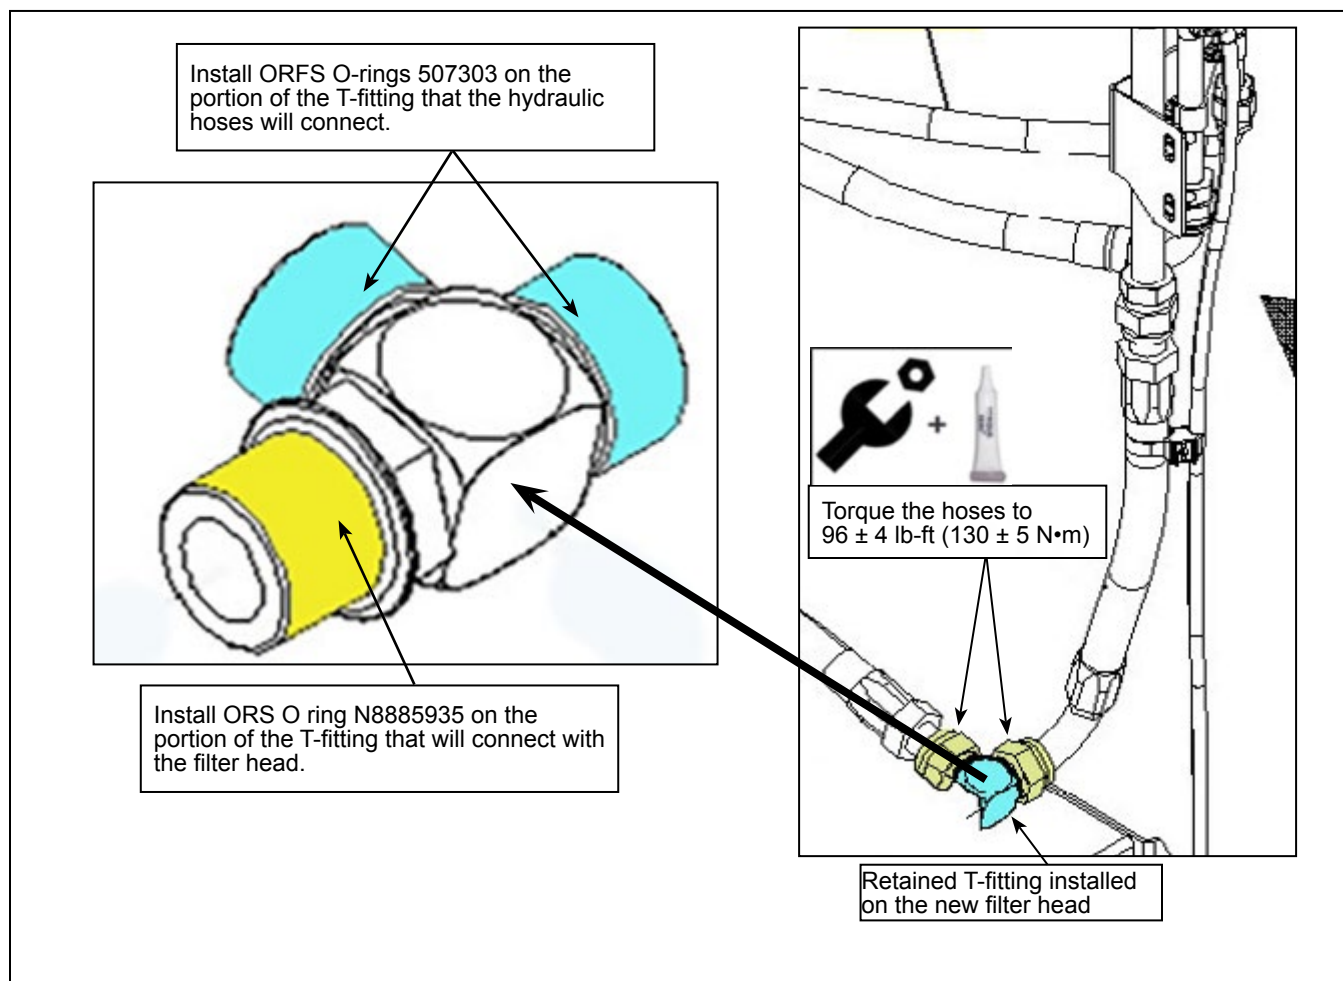

Figure 7 - O ring and Torque Value of the T-fitting
- 1.29. Install the ORS O ring N8885935 and the ORFS O-ring 507303. See Figure 7.
- 1.30. Connect the new N8905945 hose and the hydraulic hose disconnected at step 1.7, to the hydraulic T-fitting on the filter head. See Figure 7 for torque value.